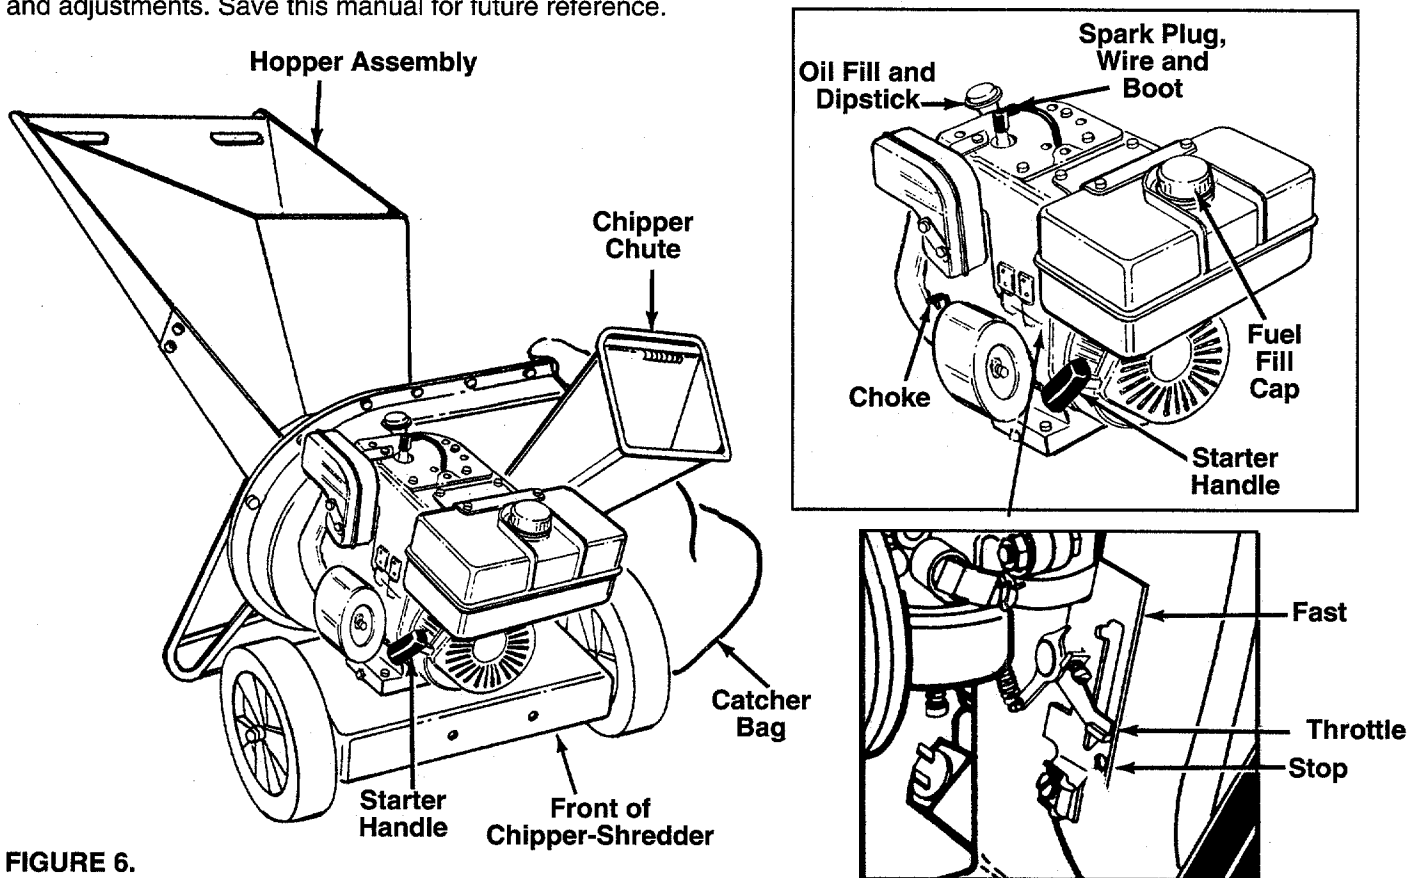

FIGURE 6.
CHOKE LEVER—Used to enrich the fuel mixture in the carburetor when starting a cold engine. See figures 6 and 14.
STARTER HANDLE—Used to manually start the engine. See figure 6.
THROTTLE CONTROL—Permits selection of fast or slow engine speed. See figure 6 and 13.
- Move throttle control lever to STOP position. See figure 6.
- Disconnect spark plug wire and move away from spark plug to prevent accidental starting while equipment is unattended. See figure 6.